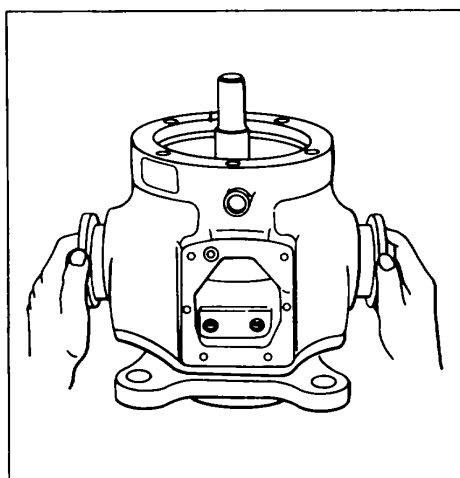

Figure 116.
8. From the sides of the housing (8) remove hex bolts (5) and lock washers (6). Pull out trunnions (7) and thrust washers (27) as shown in Fig. 116.